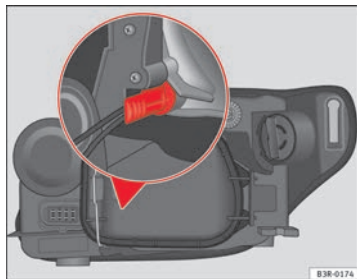

Fig. 215 Side lights. Bulb holder grip in vertical position
- Insert the bulb into the socket so that the side of the bulb holder grip is vertical $\Rightarrow$ fig. 215 and press on it.